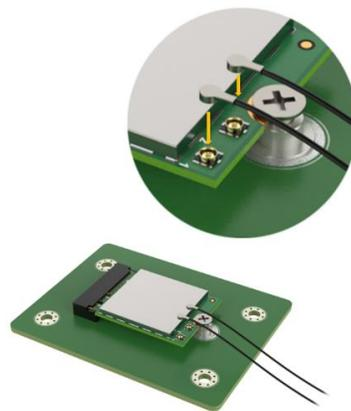

Figure 3-13: Secure WLAN Module and Connect RF Cables
- Step 4:** Secure the WLAN module. Secure the WLAN module with the retention screw previously removed (Figure 3-13).
- Step 5:** Connect the two RF cables to the antenna connectors on the WLAN module (Figure 3-13).